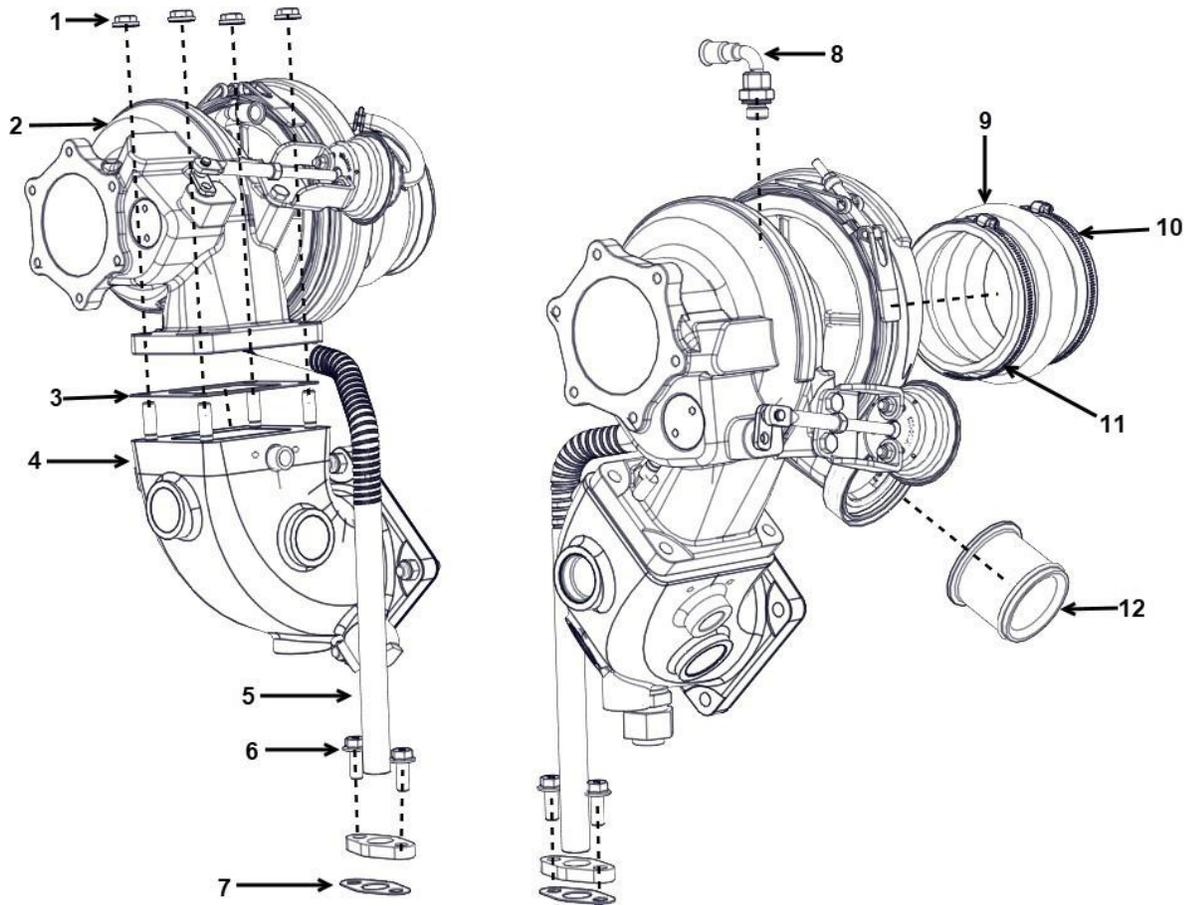

Figure 21. Turbocharger Assembly
6. Untighten both turbocharger hose clamps (10 & 11) from each turbocharger. (Refer to Figure 21.)
7. Remove the four turbocharger nuts from each turbocharger. (Refer to Figure 21.)